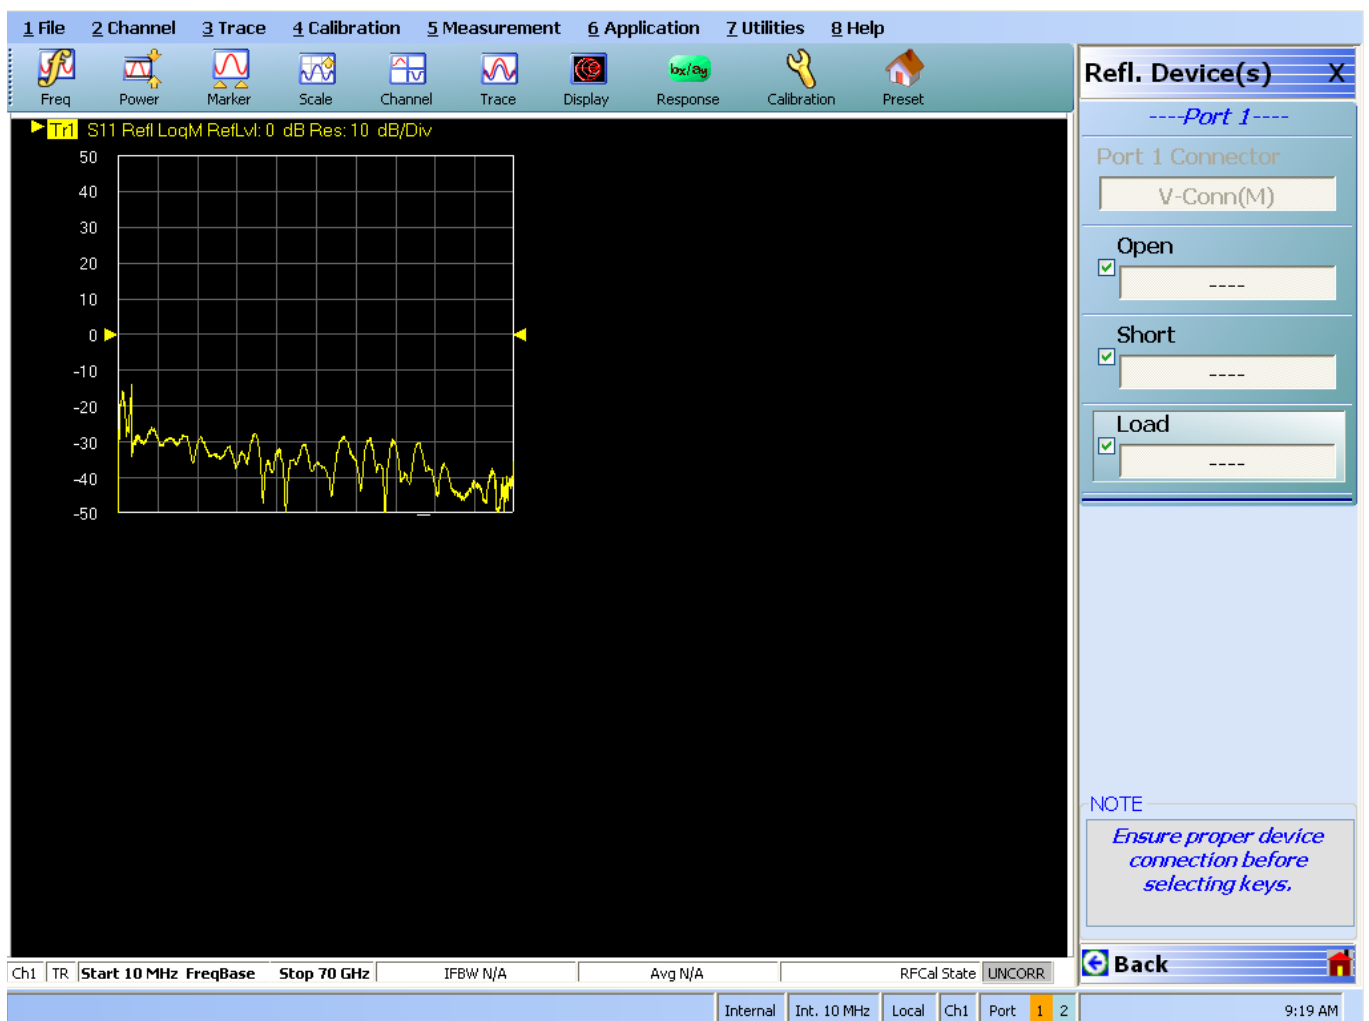

Figure 3-5. Refl. Device(s) Menu
25. Select Port 1 Reflective Device to display the REFL. DEVICE(S) menu. See Figure 3-5 below.
A check mark will appear on the button when the measurement or process is complete. See examples on right side of Figure 3-5 above.